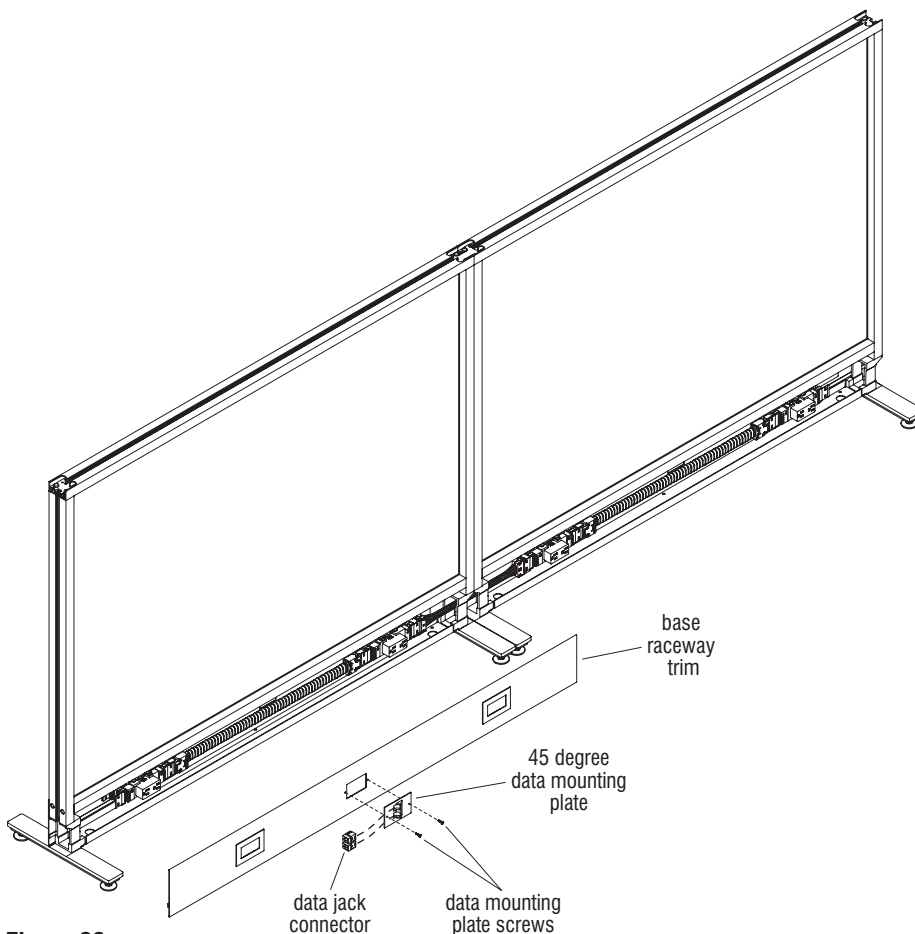

Figure 33
1. Per the space-planning layout, determine data jack locations required in base wireway channels. A standard cutout for data plates in base raceway trim is provided (Figure 33).